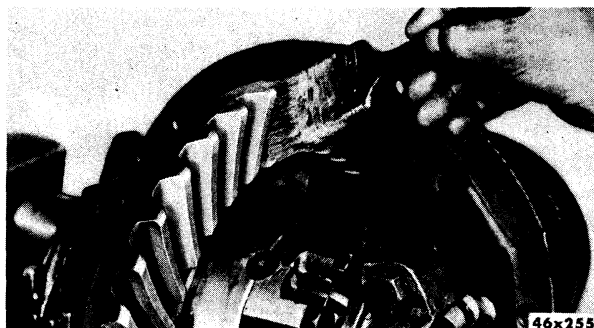

Fig. 45—Applying Gear Marking Compound to Gear Teeth
- (2) Check tooth contact by means of the gear marking compound applied to the drive gear teeth, as shown in Figure 45. Apply load against the back face of the drive gear with a round bar as the drive pinion